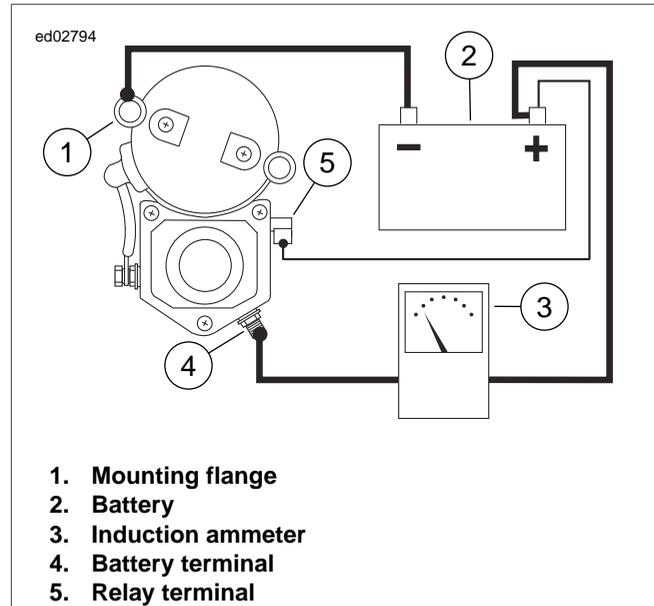

Figure 1-8. Free Running Current Draw Test
2. See Figure 1-8. Attach one heavy jumper cable (6 gauge minimum).
- a. Connect one end to the starter mounting flange (1).
- b. Connect the other end to the negative (-) terminal of a fully charged battery (2).
- a. Connect one end to the positive (+) terminal of the battery (2).
- b. Connect the other end to the battery terminal (4) on the starter solenoid. Place an induction ammeter (3) over cable.
- b. Connect the other end to the solenoid relay terminal (5).